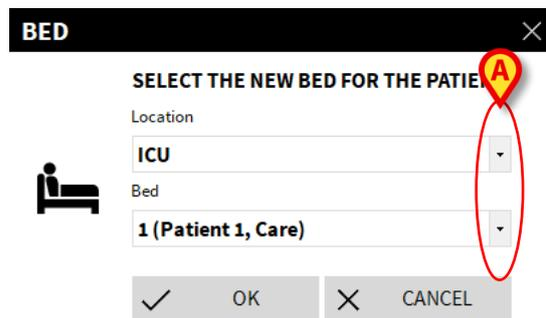

Fig 114
The following window opens (Fig 114).
- Use the arrow buttons (Fig 114 **A**) to select the bed to which the patient will be transferred